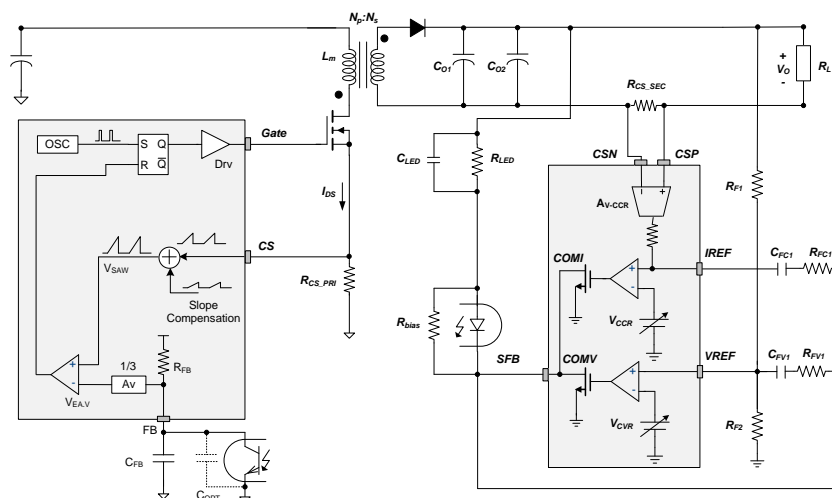
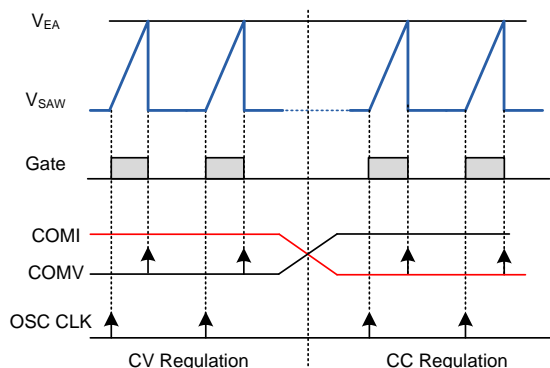

Figure 35. Internal PWM Control Circuit
Figure 36. PWM Operation for CV and CC
Figure 35 shows the primary-side internal PWM control circuit of the FAN501A and secondary side regulator circuit of the FAN6100M which consists of two operational amplifiers for constant voltage (CV) and constant current (CC) regulation with adjustable voltage references.
V_{EA} is compared with an internal sawtooth waveform (V_{SAW}) by PWM comparators to determine the duty cycle. As seen in Figure 35, output of the comparator is used as a reset signal of flip-flop to determine the MOSFET turn-off instant. The lower signal, either COMV or COMI, is transferred to the primary-side to determine the duty cycle, as shown in Figure 36. During CV regulation, COMV is transferred to the primary-side to determine the duty cycle while COMI is saturated to HIGH. During CC regulation, COMI is transferred to the primary-side to determine the duty cycle while COMV is saturated to HIGH.